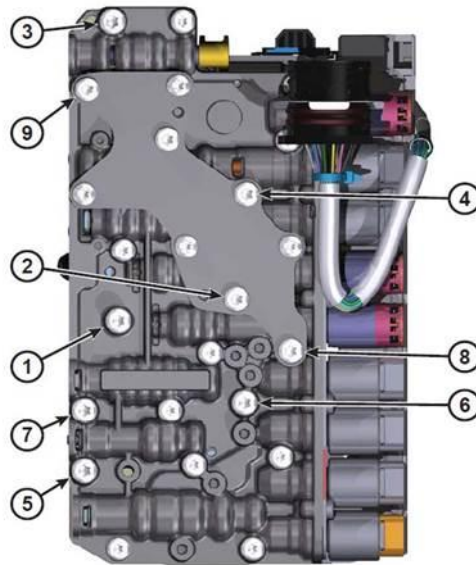

Fig. 26 Valve Body Retaining Bolt Torque Sequence
64. Install the valve body retaining bolts and torque, in sequence, to 11Nm (8 Ft Lbs.). See (Fig. 26).